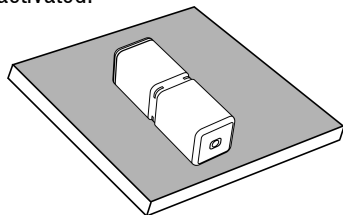

Figure 12C
- ii. Then stop shaking it, leave WWD on the table in Horizontal position as Figure 12C;